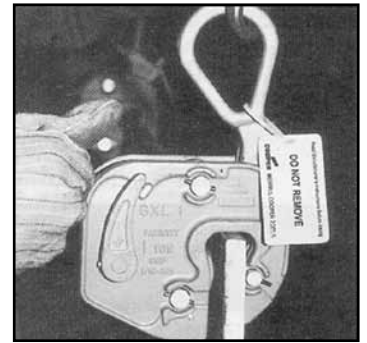

Figure 29
- C. Ensure that the plate is inserted to the full depth of the plate and the cam is engaged against the plate. You are now ready to lift the plate (Fig. 29).